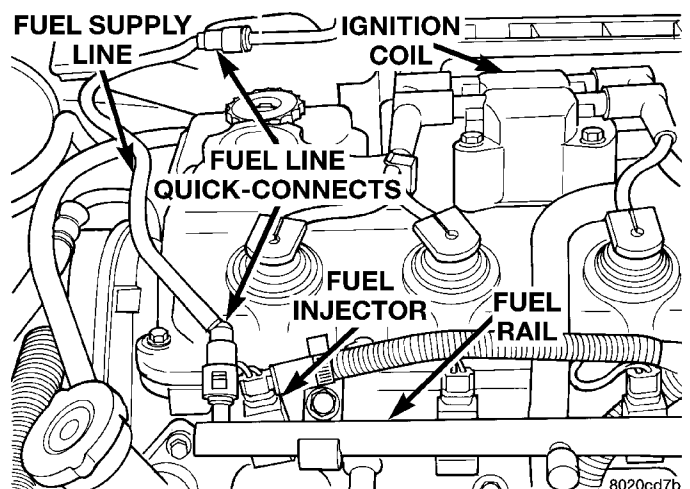

Fig. 60 Fuel Injectors—Typical
- (8) Inspect the fuel injector electrical connections (Fig. 60).